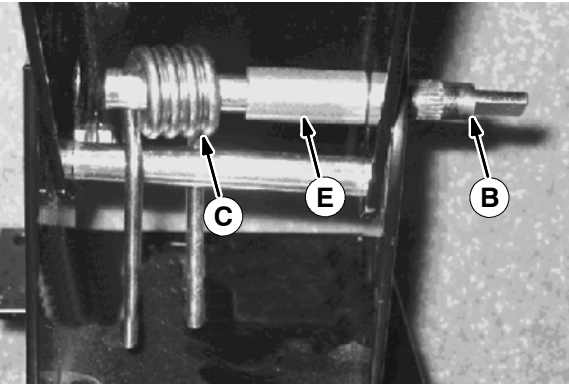

FIG. 9
10. Reassemble the new upper shaft (B) parts by inserting the shaft through the large hole in the base support and the left side of the pedal. Add the new bushing (E) and the new spring (C). The legs of the spring must be over the center pin as shown. Refer to Fig. 9.